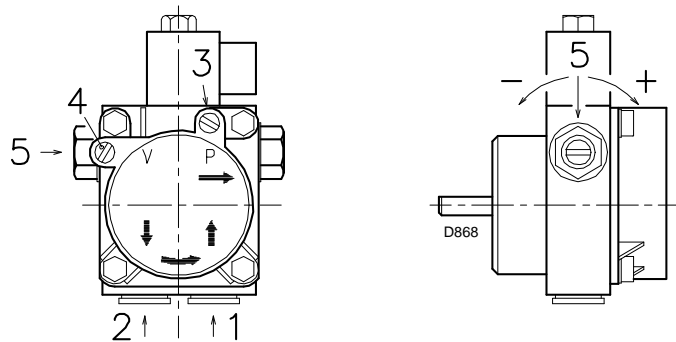
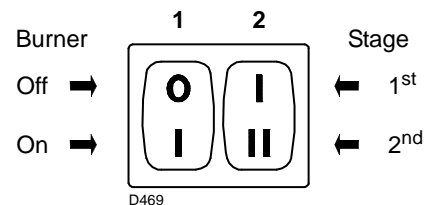

Fig. 21
Fig. 22
For the priming pump loosen the screw 3)(Fig. 21) in order to bleed off the air contained in the suction line and wait until the fuel flows out.
- For self-priming to take place, one of the screws 3)(Fig. 21) of the pump, must be loosened in order to bleed off the air contained in the suction line.
- Start the burner by closing the control devices, with switch 1)(Fig. 22) in the "ON" position and with switch 22)(Fig. 5 at page 12) in the "OIL" position.
- The pump can be considered to be primed when the gas oil starts coming out of the screw 3)(Fig. 21). Stop the burner: switch 1)(Fig. 22) set to "OFF" and tighten the screw 3).